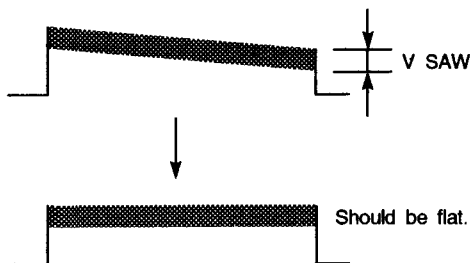

Fig. 5-1-40
- Adjust VR4 so that the shading portion level becomes flat level as shown in Fig. 5-1-40.
- Adjust VR8 so that the shading portion level becomes flat level as shown in Fig. 5-1-40.
- Adjust VR12 so that the shading portion level becomes flat level as shown in Fig. 5-1-40.